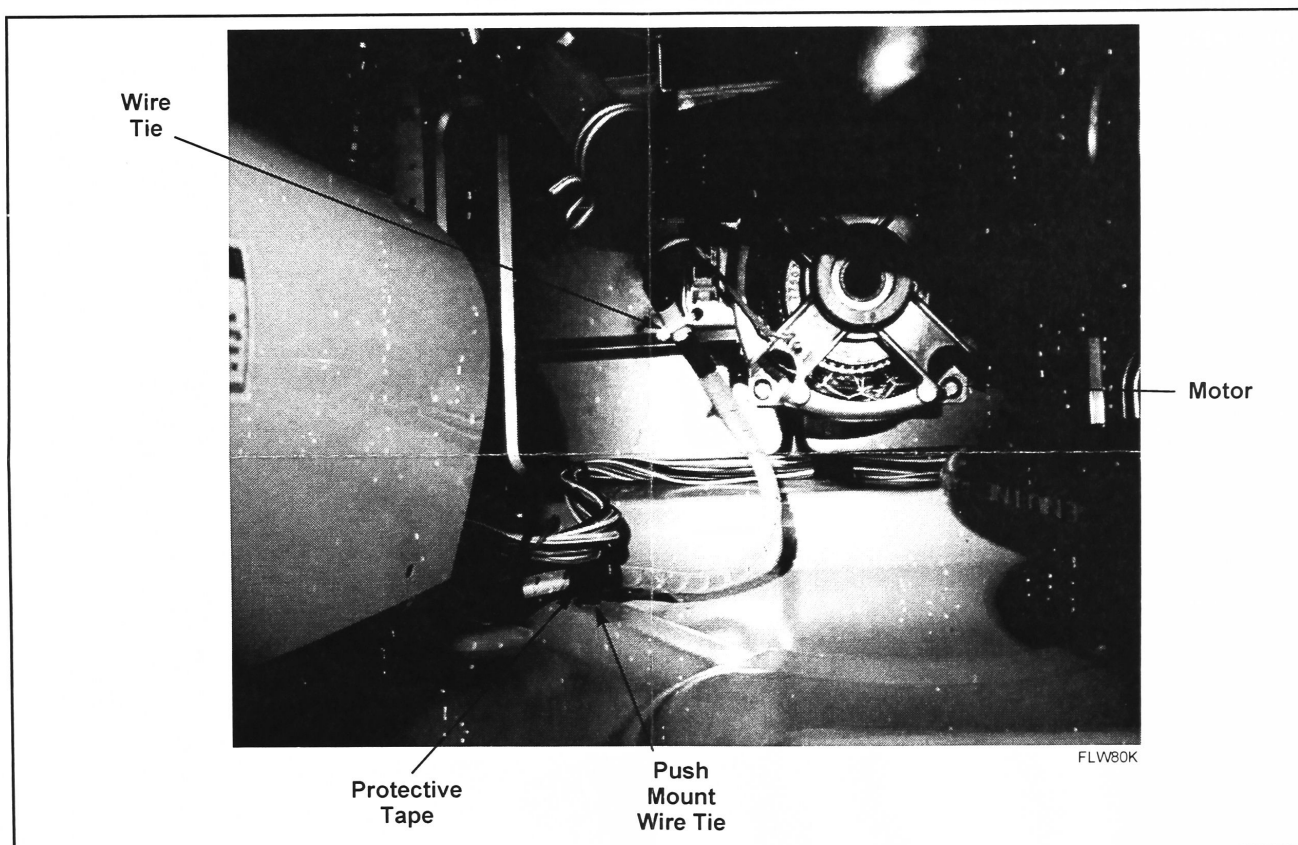

Figure 1
1. Wrap the 38663 Push Mount Wire Tie around the motor's wire harness where the wire harness is covered by a layer of protective tape. Refer to *Figure 1*.
2. Snap the push mount wire tie into the hole in the washer's base. Refer to *Figure 1*.
3. Use the 39037 Wire Tie to attach the motor's wire harness to the motor's base. Refer to *Figure 1*.